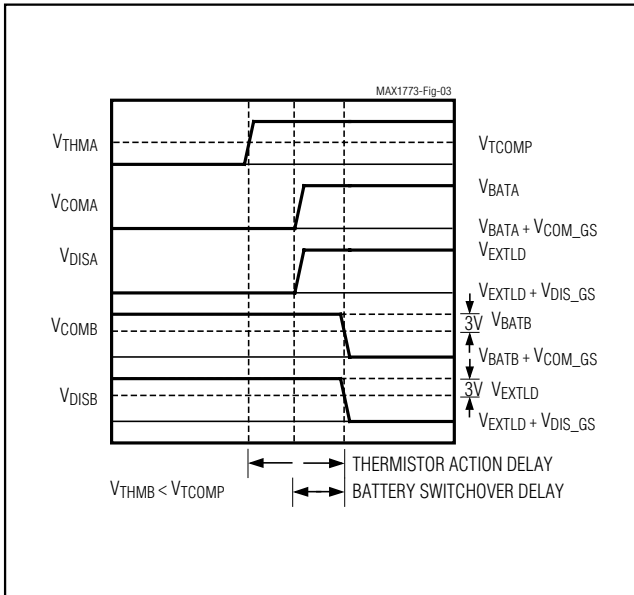

Figure 3. Thermistor Switchover Delay (Battery A to Battery B)
**Note 8:** Thermistor Action Delay begins when  $V_{THM\_}$  of the connected battery rises above  $V_{TCOMP}$  and ends when both  $V_{COM\_}$  and  $V_{DIS\_}$  of the other battery have fallen 3V below their sources (Figures 3 and 4).